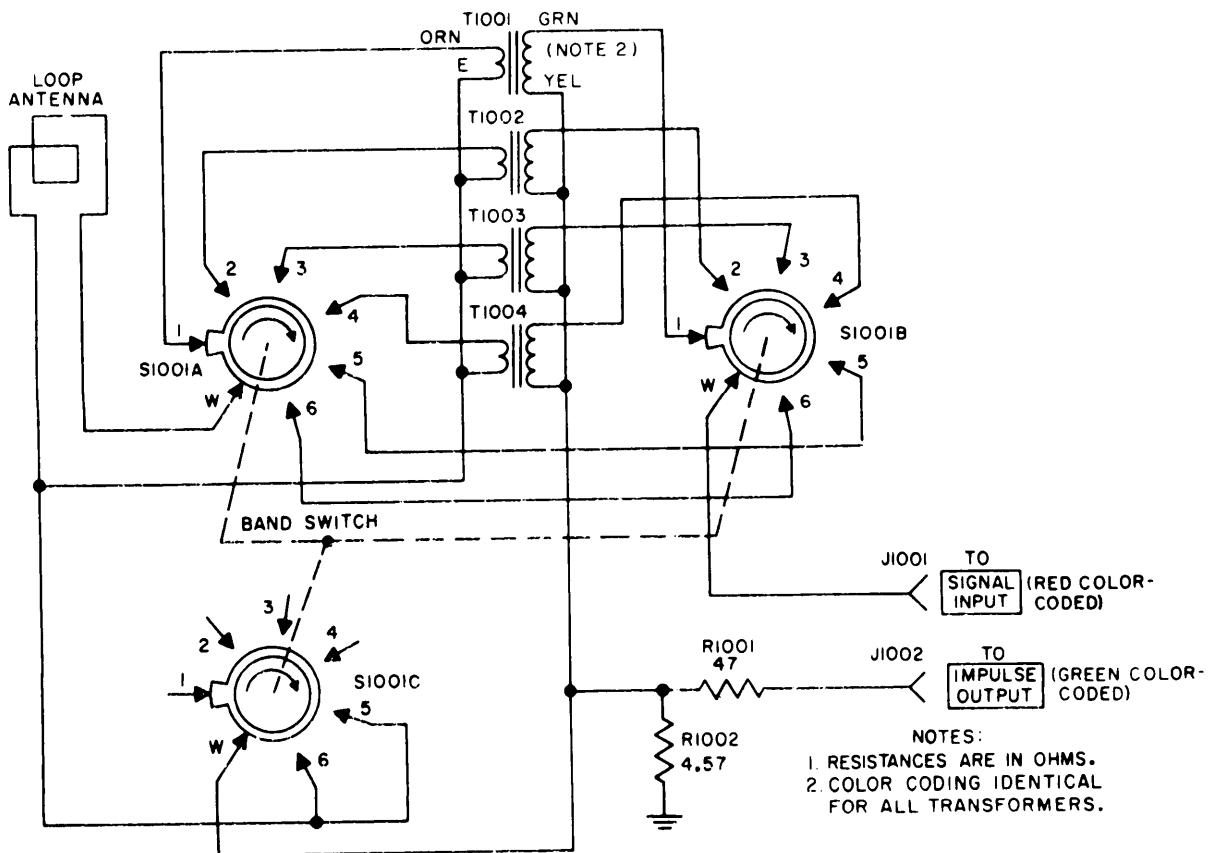

Figure 36. Antenna AT-1026/URM-86, schematic diagram.
a. Antenna AT-1029/URM-85. This loop antenna (fig. 36) consists of a single turn of wire and a base which houses matching transformers, an injection network for the impulse generator signal, and a band switch to select one of the six bands corresponding in frequency to that inscribed on the front panel of tuning unit 1. The loop itself consists of a single turn of wire enclosed in an electrostatic shield. Therefore, the loop is relatively insensitive to the electric field component of radio energy but is highly responsive to the magnetic field component. Because of the single turn of wire in the loop itself, this antenna has an extremely low-output impedance match.
- (1) *Rf signal path.* To match the output impedance of the loop antenna to the red color-coded 50-ohm characteristic impedance of the mating coaxial rf cable, four matching transformers, T1001 through T1004, are used. The transformers, of subminiature construction, are enclosed in fer-